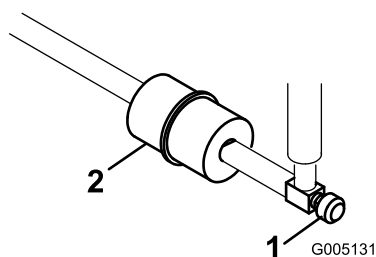

Figure 44
An in-line filter is incorporated into the fuel line between the fuel tank and carburetor (Figure 44).
1. Close the fuel-shutoff valve, loosen the hose clamp on the carburetor side of filter, and remove the fuel line from the filter (Figure 44).
2. Place a drain pan under the filter, loosen the remaining hose clamp and remove the filter (Figure 44).